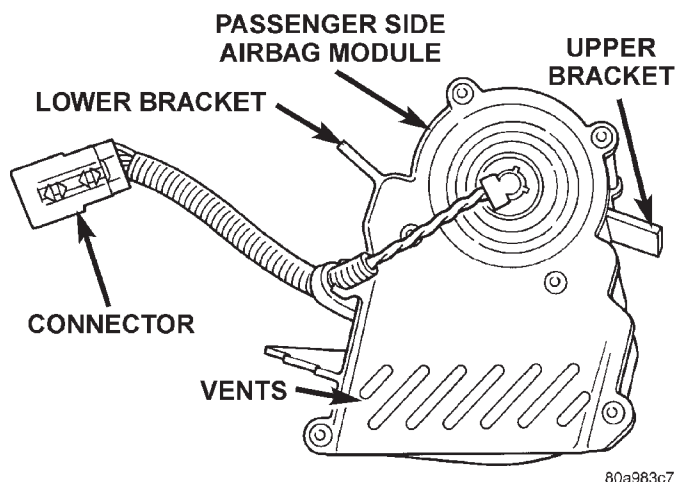

Fig. 5 Passenger Side Airbag Module Vents
(1) Disconnect and isolate the battery negative cable. If the airbag has not been deployed, wait two minutes for the system capacitor to discharge before further service.
(2) Remove the instrument panel top cover. Refer to Instrument Panel Top Cover in the Removal and Installation section of Group 8E - Instrument Panel Systems for the procedures.
(3) Apply masking tape over the passenger side airbag module vents on each end of the module. The tape will help prevent any foreign material from entering the module through the vents during disassembly and reassembly (Fig. 5).